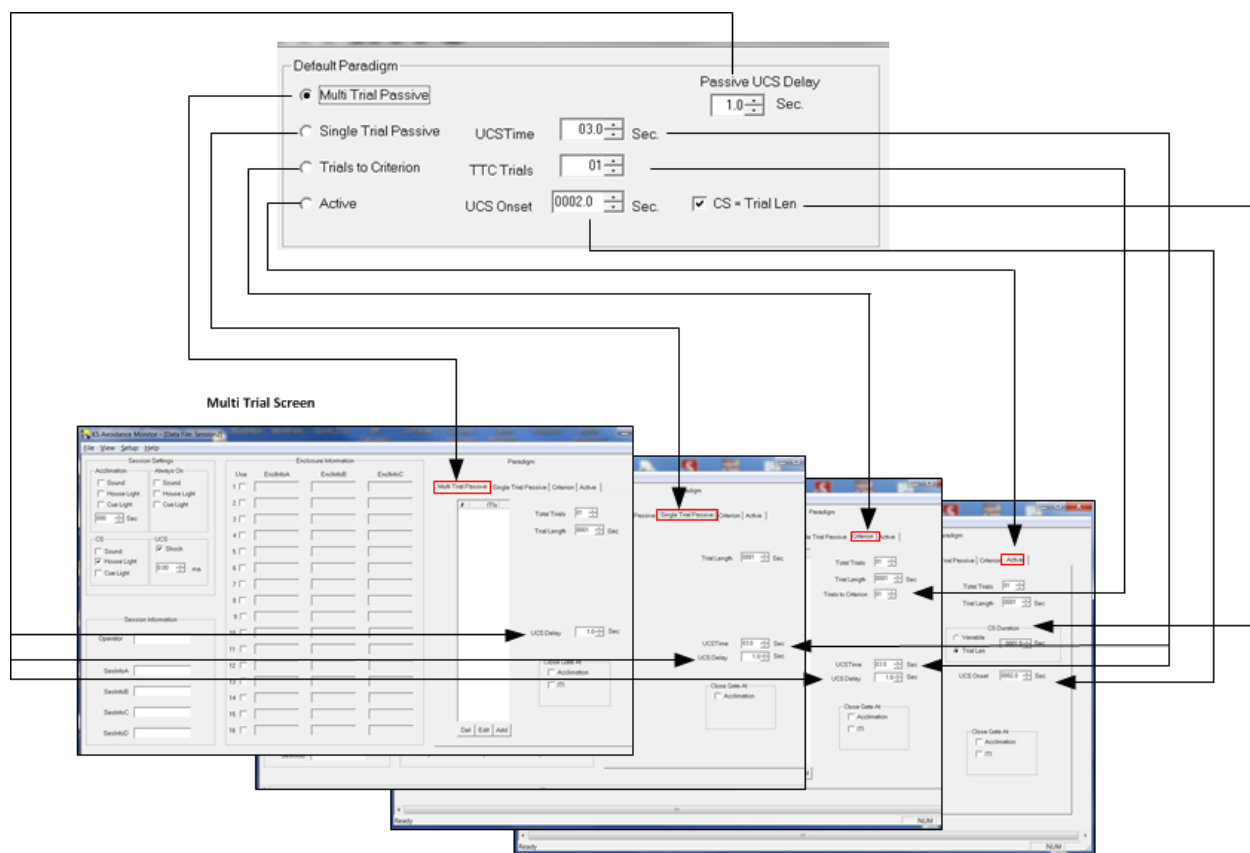

Figure 2-7. Default Paradigm Group
2.1.4.1 Default Paradigm Group The **Default Paradigm** group is for selecting the default paradigm that will appear when **New** is selected from the **File** menu. In addition, parameters specific to one or more paradigms can be set in this group. Figure 2-7 shows the relationship between this group and the session screens, i.e., which controls apply to which paradigm.